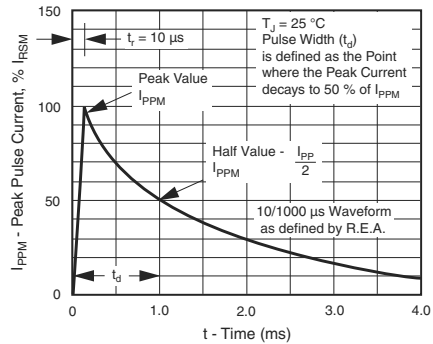
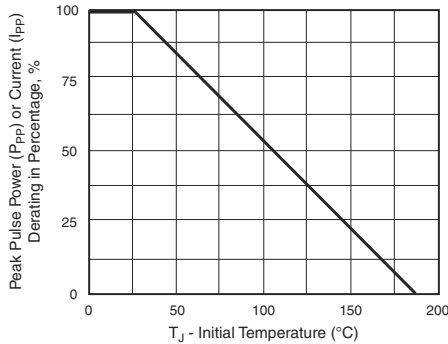

Figure 3. Pulse Waveform
Figure 2. Pulse Power or Current vs. Initial Junction Temperature
(1) VBR measured after IT applied for 300 μs, IT = square wave pulse or equivalent
(2) Surge current waveform per fig. 3 and derated per fig. 2
(3) All terms and symbols are consistent with ANSI/IEEE C62.35